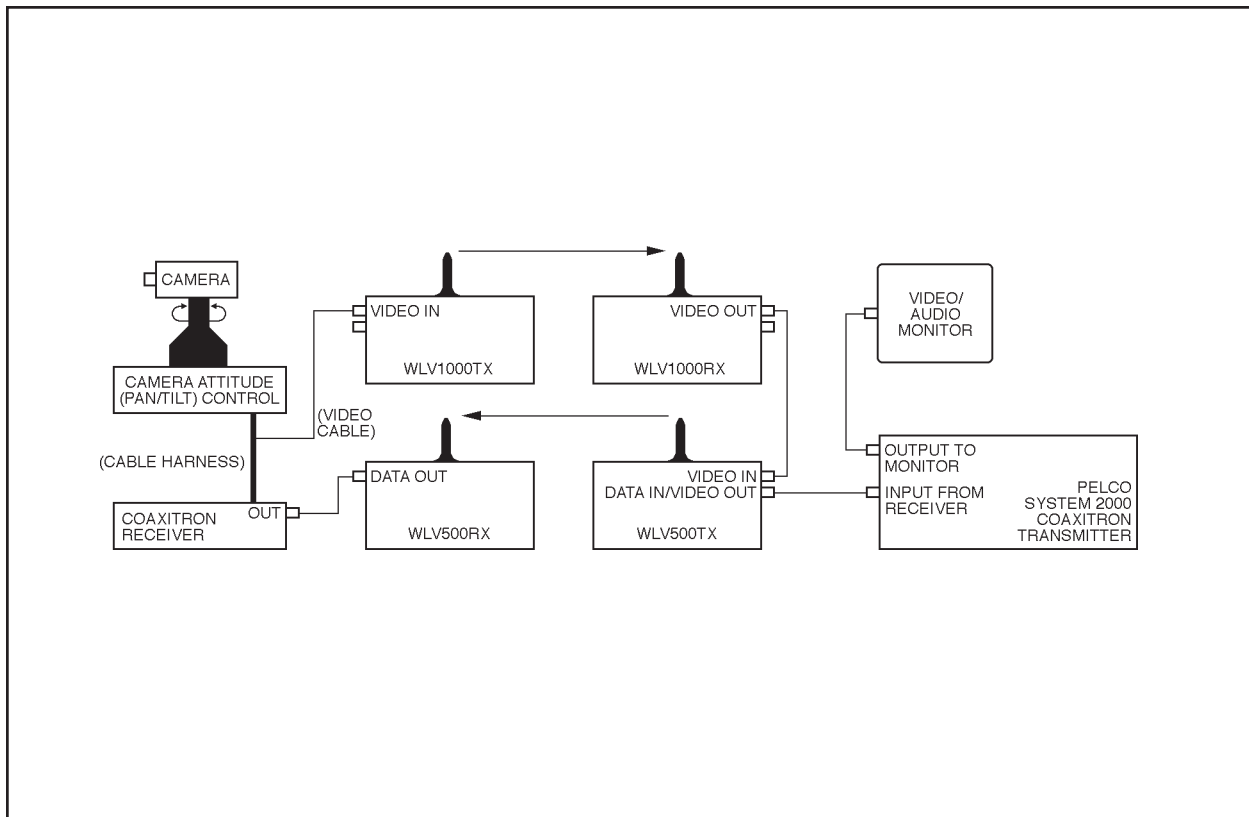

Figure 1. Typical WLX1000 Video/WLX500 Control Link System Configuration
1. Refer to Figure 1. The output port labeled “**INPUT FROM RECEIVER**” of the Coaxitron System 2000 transmitter should be connected to the BNC connector indicated on the label as “**DATA IN/VIDEO OUT**” of the WLV500TX control link transmitter. The video signal that originated from the WLV1000RX wireless video receiver (or directly from a camera or other video source) should be connected to the BNC connector labeled “**VIDEO IN**” of the WLV500TX. The port labeled “**OUTPUT TO MONITOR**” of the Coaxitron System 2000 transmitter should be connected to a video monitor.
3. The wall mounted power supplies (15 VDC) included in the system should be connected to the power strips of each unit labeled “**11-16 V**”. The striped lead with a red connector should be connected to the positive “+” terminal and the ground lead with the black connector should be connected to the negative “-” terminal. The power supplies should then be plugged into a 120 volt (AC) power outlet.